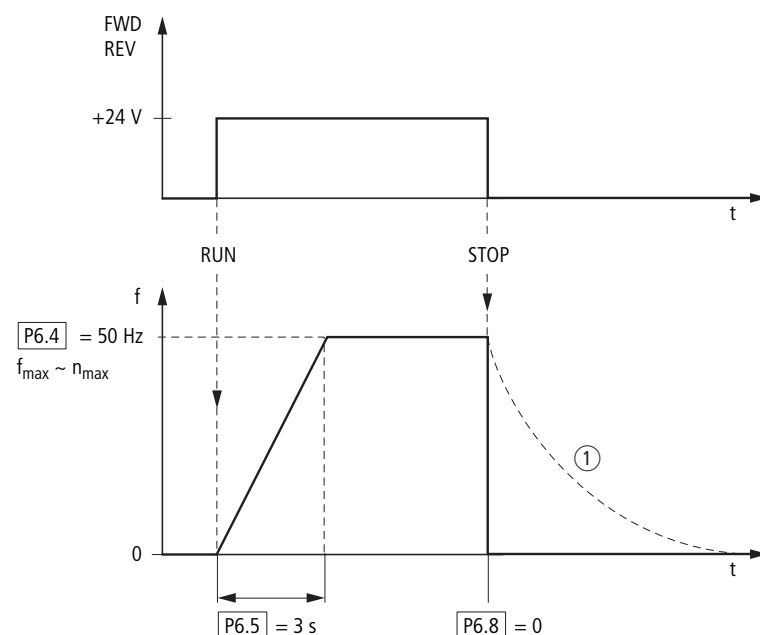

Figure 62: Start-Stop command with maximum setpoint value voltage, acceleration ramp 3 s
Figure 62 on Page 82 shows a good example of the process, if the release signal (FWD/REV) is switched on and the maximum setpoint voltage (+10 V) is applied. The speed of the motor follows the output frequency depending on the load and moment of inertia (slip), from zero to n_{max} .
If the release signal (FWD, REV) is switched off during operation, the inverter is blocked immediately (STOP). The motor comes to an uncontrolled stop (see ① in Figure 62, Page 82).